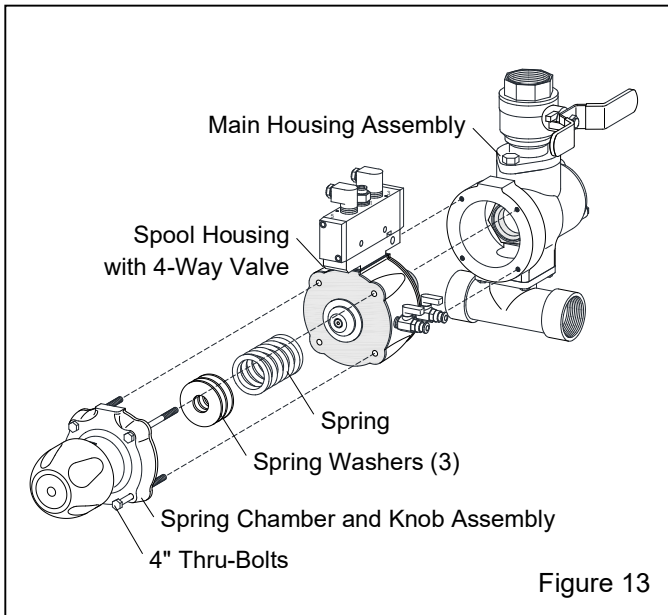

Figure 13
4.7 Reassemble Valve Sections – Figure 13